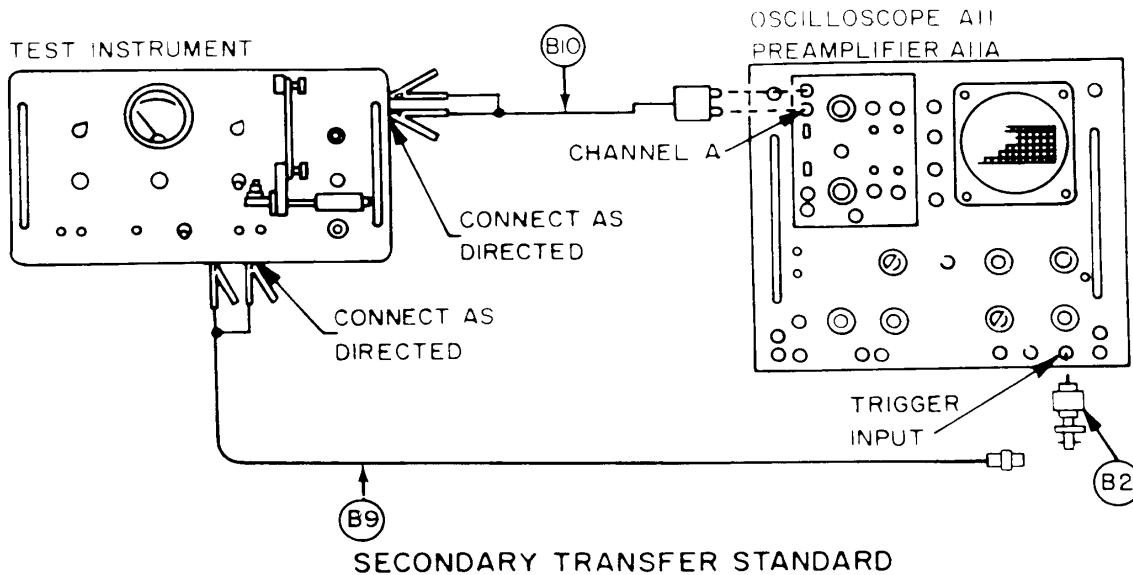

Figure 6. Duty cycle calibration - equipment setup.
(1) Connect the equipment as shown in figure 6.